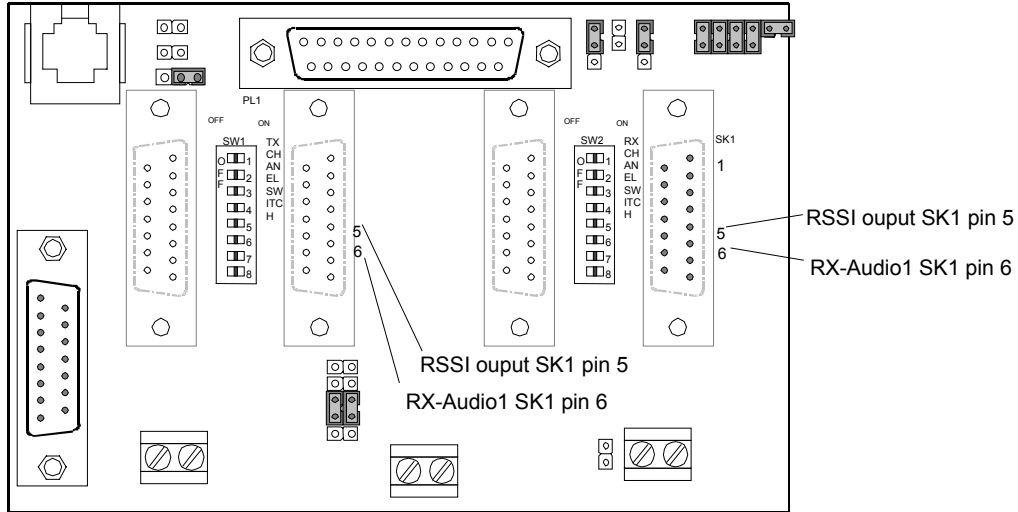

Figure 24 - T800-50-0001 Backplane
- Caution: mis-adjusting RSSI may reduce the ParagonPD's Parallel Decode (PD) performance.
- Adjust RV 345 (RSSI level) for T885, RV320 (RSSI level) for T855 to give 2.0V RSSI output at SK330 pin 2 (T855) or on backplane SK1 pin 5 when measured with a voltmeter (See Figure 24 for test point location).
- Adjust RV320 (RSSI level) to give 4.5V RSSI output at RSSI test point (near quad. Coil L360) or on backplane SK1 pin 5 when measured with a voltmeter (Figure 24 - T800-50-0001) for test point location).